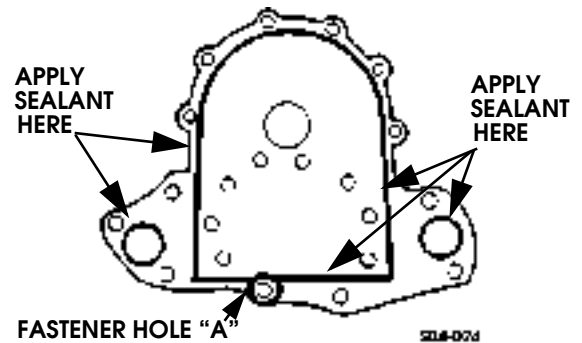

Figure 2-30: Water Pump Adapter Plate Sealer Application Diagram
21. Install water pump and adapter plate. Apply Permatex/Loctite pipe sealing compound, to fastener that goes in hole "A" (Figure 2-30). Tighten pump/adapter bolts to 13-20 lb-ft (18-27 N•m) torque.